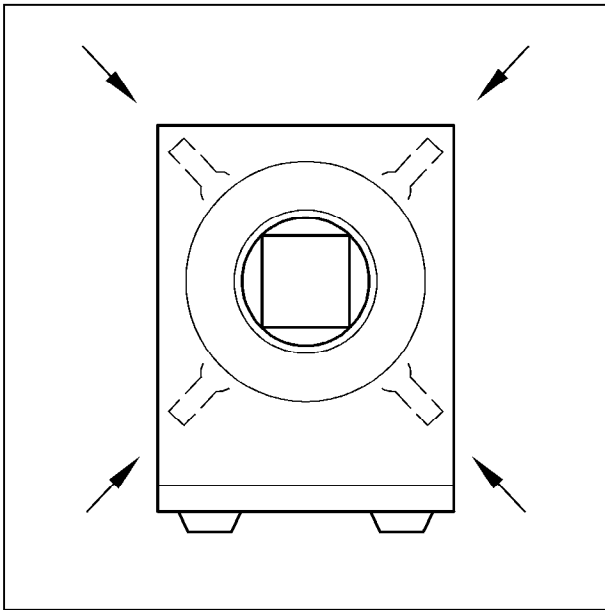

Fig. 18
- If the deviation is larger, loosen the 4 Allen screws a little (arrow /Fig.18/19) and shift the collimator accordingly.
After adjusting the collimator, tighten the screws again (arrow / Fig.18/19).